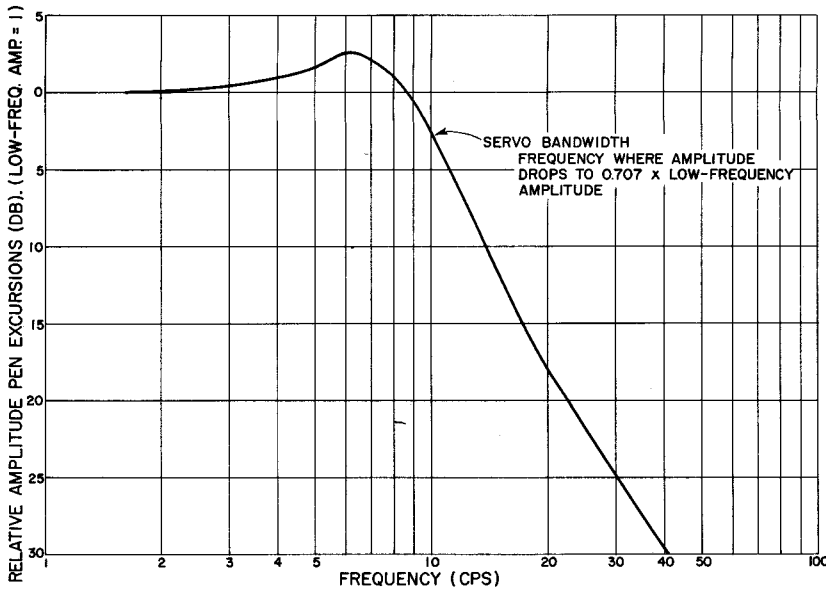

Figure 4.8. Servo frequency response.
4.10 SERVO BANDWIDTH. Servo bandwidth in a level recorder is defined for the motion of the pen, and is independent of the frequency response of the ac amplifier (7 cps to 200 kc). The servo acts as a low-pass filter, with the pen following level variations up to frequency cutoff. The cutoff frequency or servo bandwidth is the frequency at which the amplitude of the pen excursions drops to 0.707 times the amplitude at low frequencies (see Figure 4.8). The servo bandwidth is a useful indication of the recorder capabilities for small variations in amplitude.